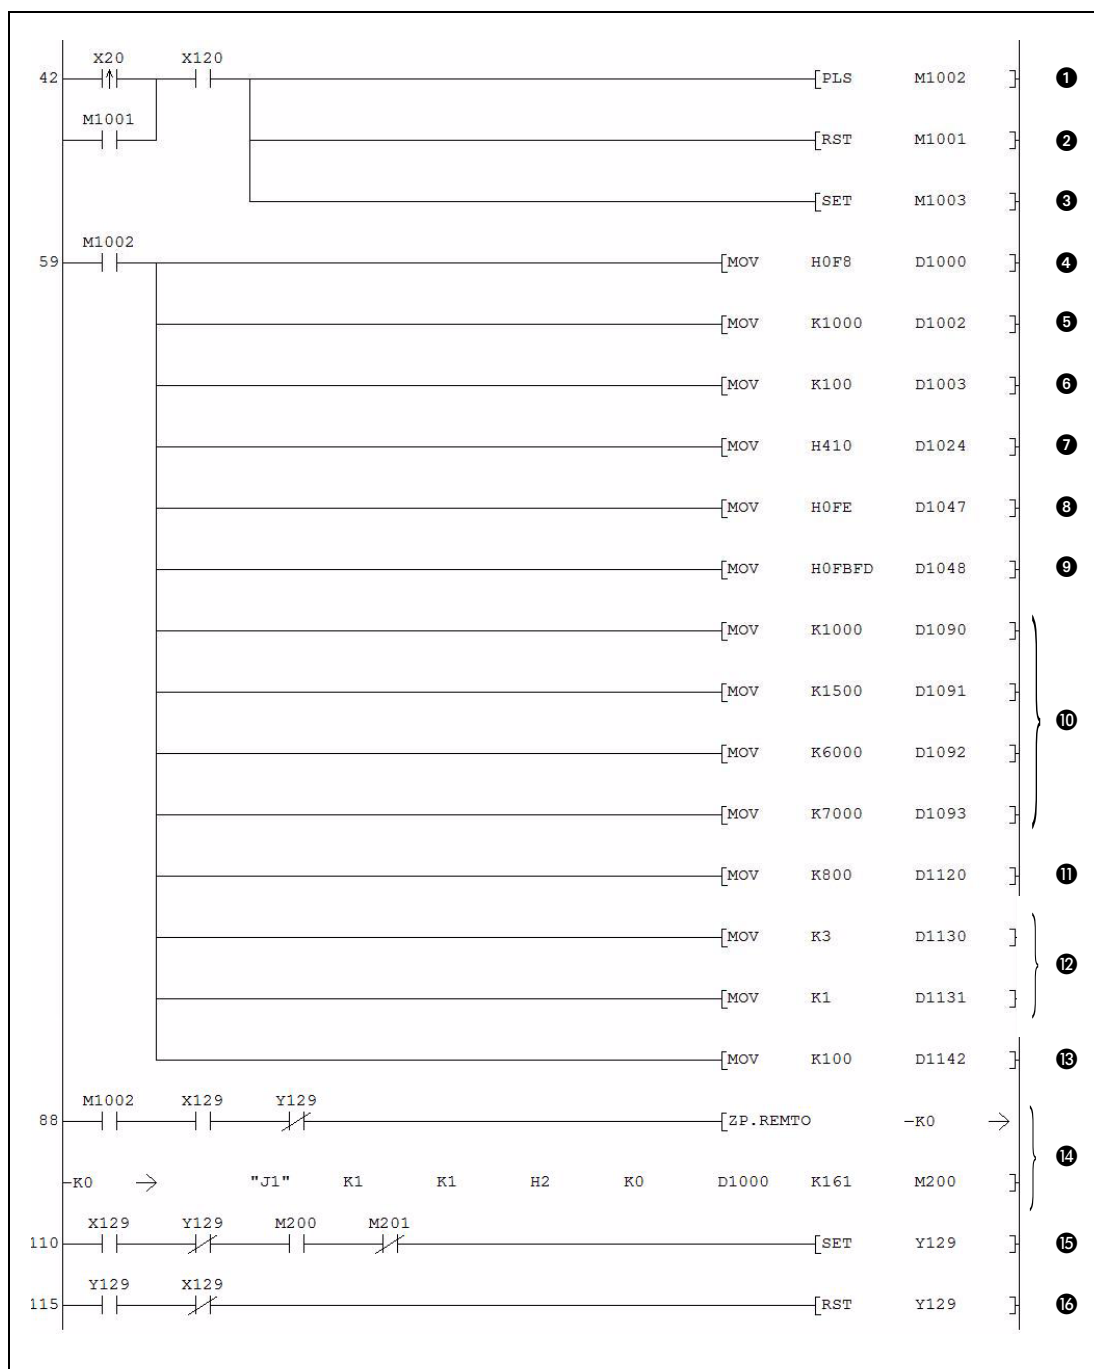
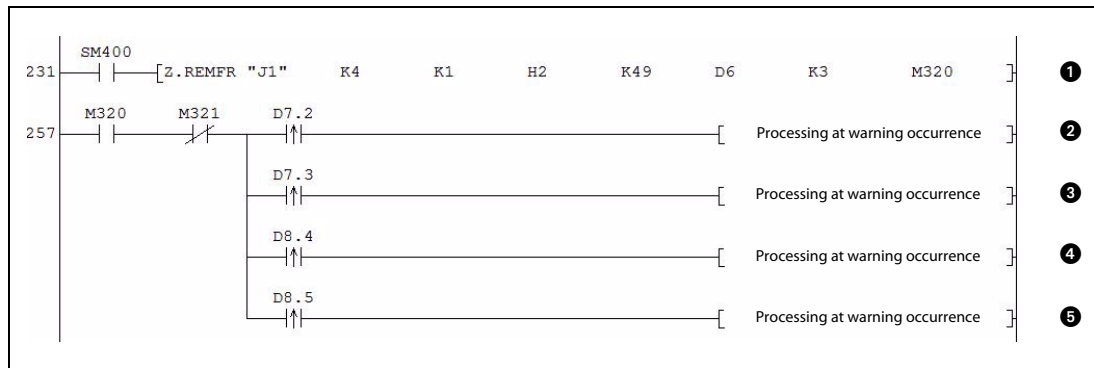

Fig. 5-13: Initial settings performed by the sequence program
Fig. 5-16: For each warning separate instructions are executed
①	Processing for an input signal error at CH1. (The status of the input signal error flags has been read concurrently with the warnings (refer to fig. 5-16))
②	When an input error has been detected and the reset signal (X21) is ON, the error clear request (Y12F) is set.
③	In case of an error the error code is read and stored in D9. Then the error code is output in BCD.
④	The error clear request (Y12F) is set.
⑤	When there is no error indicated, the error clear request (Y12F) is turned OFF.
⑥	The HART field device status is read and stored in internal relays (SM400 is always ON).	Status of device connected to CH1
⑦		Status of device connected to CH2
⑧		Status of device connected to CH3
⑨	Processing when a malfunction of a HART field device is detected.	Device malfunction at CH1
⑩		Device malfunction at CH2
⑪		Device malfunction at CH3
⑫	Master control reset (Only when the input condition for the MC instruction (fig. 5-13) is set, the instructions between the MC and the MCR instruction are executed.)